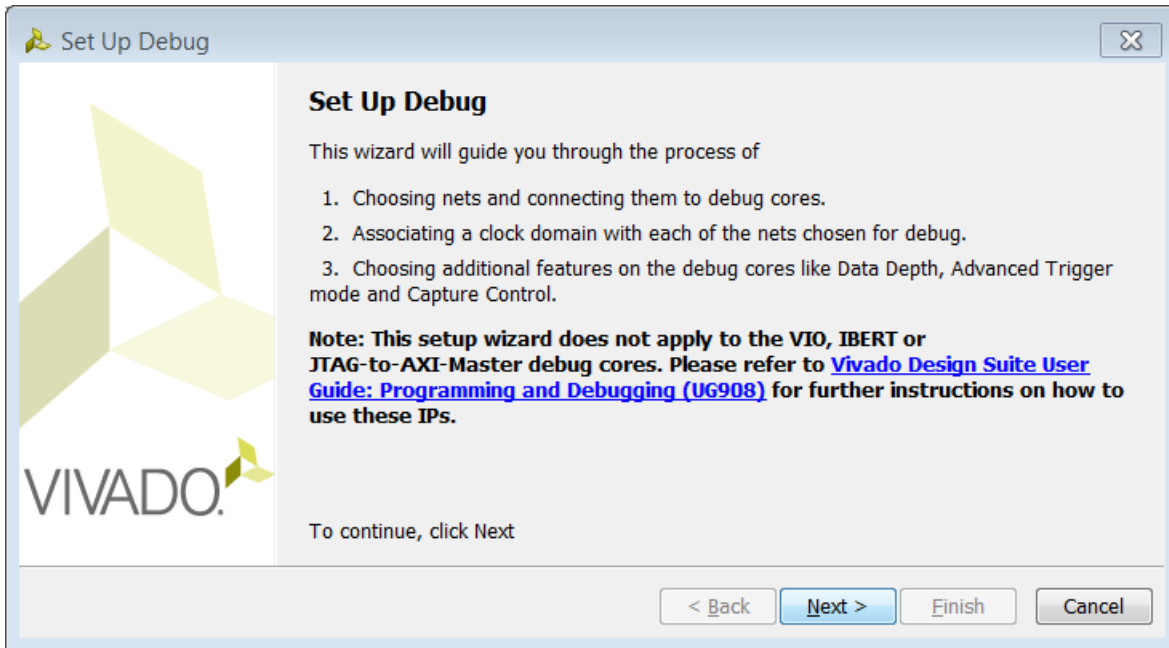

Figure 21: Set Up Debug Wizard
2. When the Set up Debug wizard opens (FIGURE 21), click **Next**.